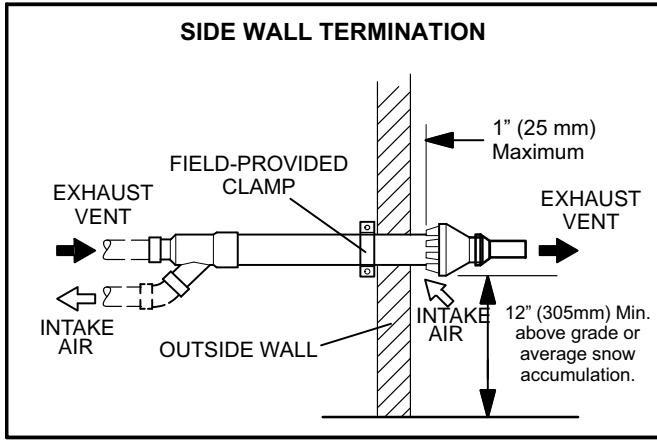

FIGURE 3
- 4 - Run 3" pipe (76 mm) pipe through the wall opening. Use a sheet metal strap to secure the termination to the structure as shown in figure 3.